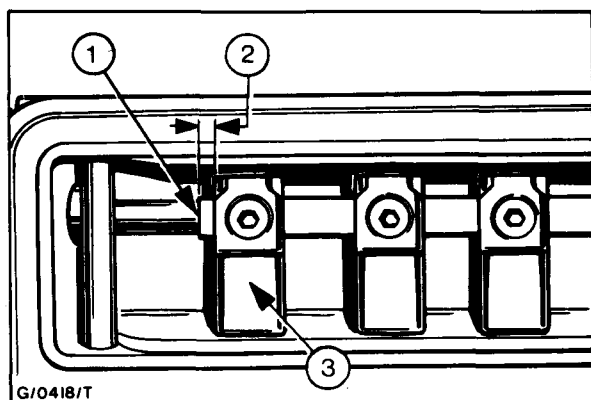

Fig. 15 - Master Fork Setting (Dorset)
1. Check that the master fork is set at a distance of 0 to 1,0mm (0 to 0,04in) from the end of the square section of the control rod and that the locating screw is secured (Fig. 15).